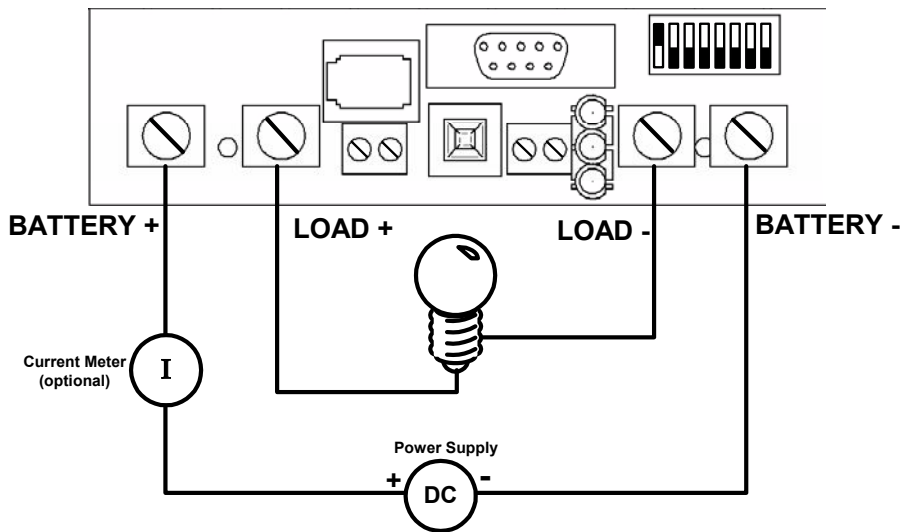

figure 5
1. Set DIP switch position #1 to the “ON” position, set all others to “OFF” as shown in figure 5.